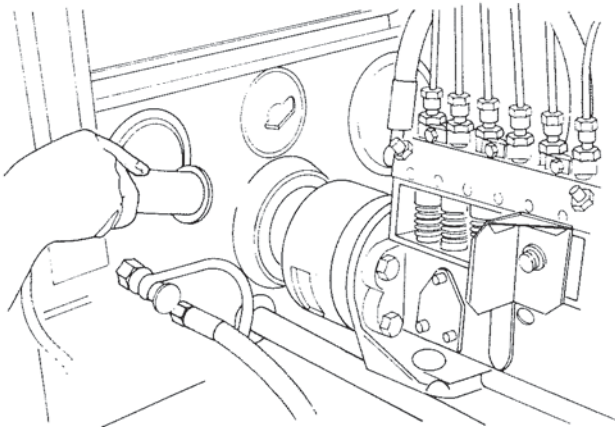

Figure 52. Testing Automatic Timer.
- C. Install strobo-switch on No. 1 tappet slider of pump. Figure 52.